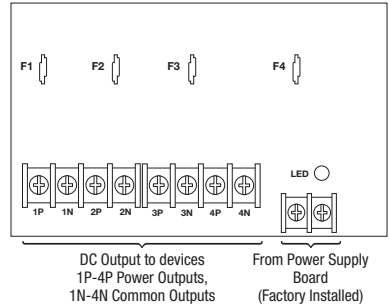

Fig. 3a - PD8UL Power Distribution Board
- b. For other Power Distribution Models: connect devices to be powered to the terminal pairs 1 to 4 marked [1P & 1N] through [4P & 4N] (*Fig. 2a & 2b*, pg. 5) or 1 to 8 marked [1P & 1N] through [8P & 8N] (*Fig. 3a & 3b*, pg. 5), carefully observing correct polarity.
6. For Access Control applications batteries are optional. When batteries are not used, a loss of AC will result in the loss of output voltage. When the use of stand-by batteries is desired, they must be lead acid or gel type. Connect one (1) 12VDC battery to the terminals marked [+ BAT -] for 12VDC operation.